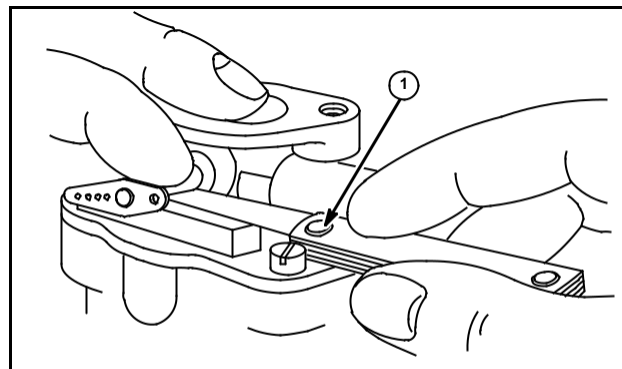

Fig. 136
2. Check wear by placing a short iron bar on upper carburetor body as shown in Fig. 136.
3. Measure distance between bar and shaft with feeler gauge (1) while holding shaft down and then holding shaft up.